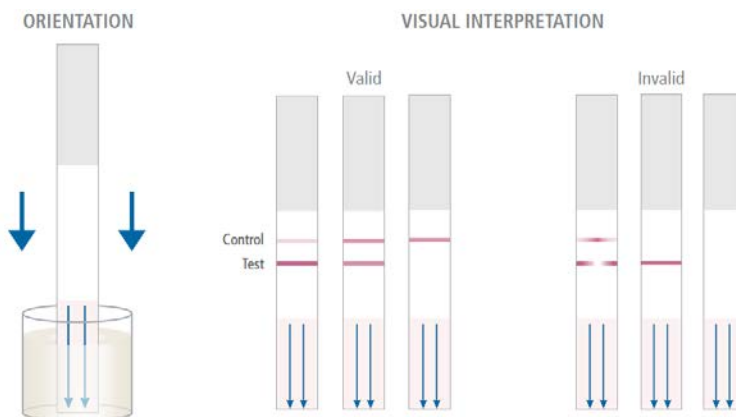

Figure 1. Test Strip Orientation and Test Interpretation
- Visually inspect strips immediately (**Figure 1**), as described below. Valid strips must be analyzed within 1 minute of removal. Do not read invalid strips.
- Test (T) or Control (C) line is uneven or “broken”.
- Control (C) line is absent.